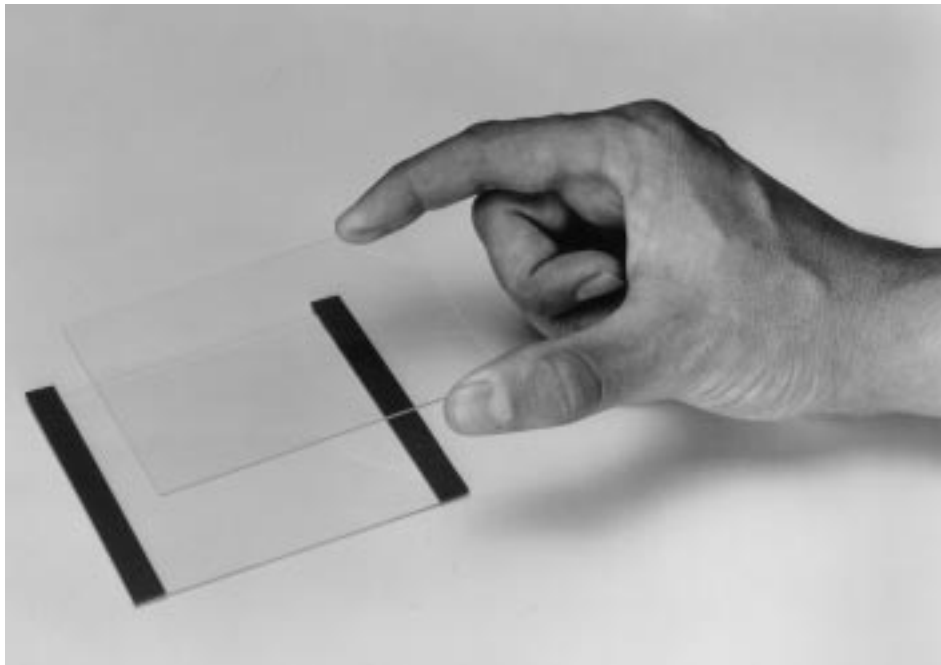

Fig 3.1
1. Assemble the gel sandwich on a clean surface. Lay the longer rectangular glass plate down first, then place two spacers of equal thickness along the short edges of the rectangular plate. Next, place the shorter glass plate on top of the spacers so that the bottom ends of the spacers and glass plates are aligned (Figure 3.1). At this point, the spacers should be sticking up about 5 mm above the long glass plate.